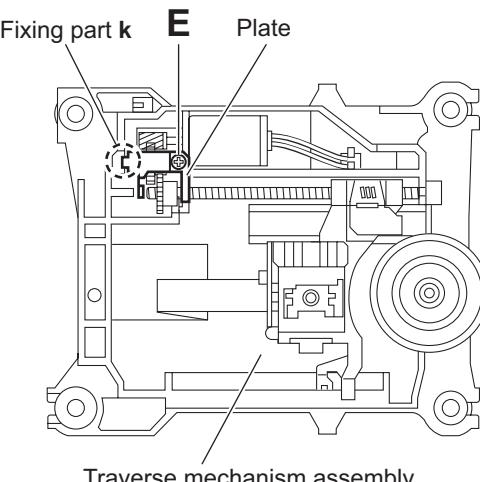

Fig.7
(See Fig.7 to 9)
- (1) Remove the one screw **E** attaching the plate from upper side of traverse mechanism assembly. (See Fig.7)
- (2) Remove the plate from fixing part **k** then take out the plate. (See Fig.7)
(See Fig.7 to 10)
- (5) Attach the plate. (See Fig. 7)